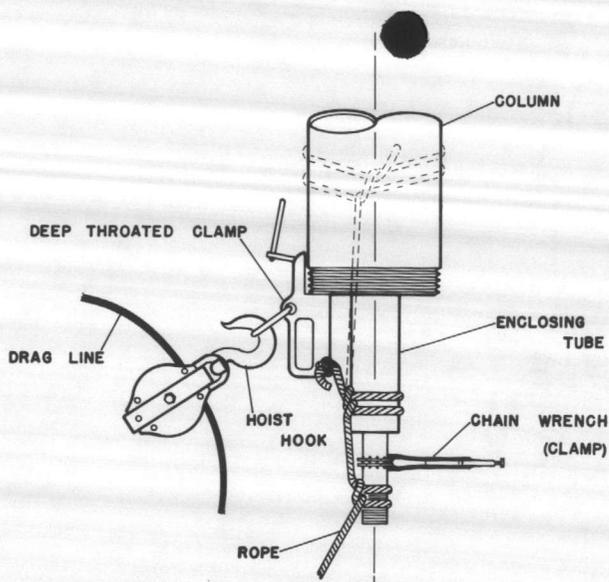

Figure 6-2 Oil lubrication Column Hoisting
C. Attach a sling to elevator clamp and to hoist hook. Attach bottom of shaft (646) to column (644), by tying a tail rope to deep throated clamp attached to bottom of column. (SEE FIGURE 6-2). Tie a clove hitch or double half hitch around the enclosing tube and then around the shaft in thread-
ed area. Figure 6-2, also shows the alternate method (dotted lines).
D. For all keyed shafts, and for safety, on threaded shafts, use chain wrenches (clamp type) on the shaft just above the shaft tail rope hitch. (SEE FIGURE 6-2). For keyed shafts the tail rope hitch shall be above the keyway.